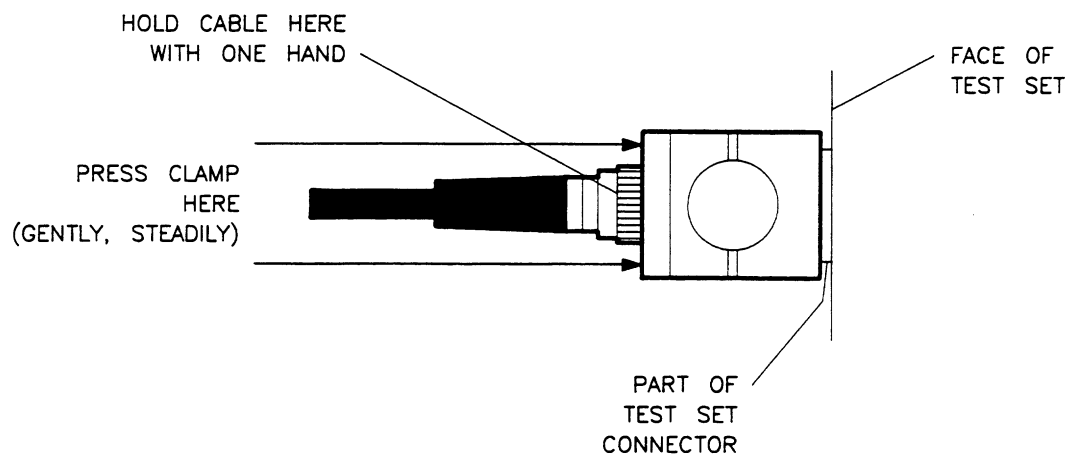

Figure 3-8 *Mating the Clamp and Nut Flats*
4. Hold the cable with one hand and with the other, press the clamp gently and steadily while wiggling the clamp straight over the RF connector and onto the test port connector nut. The internal flats in the clamp must fit over the flats on the test port connector nut. Try not to rotate the clamp as you do this or the RF connection may be loosened. Refer to Figure 3-8.